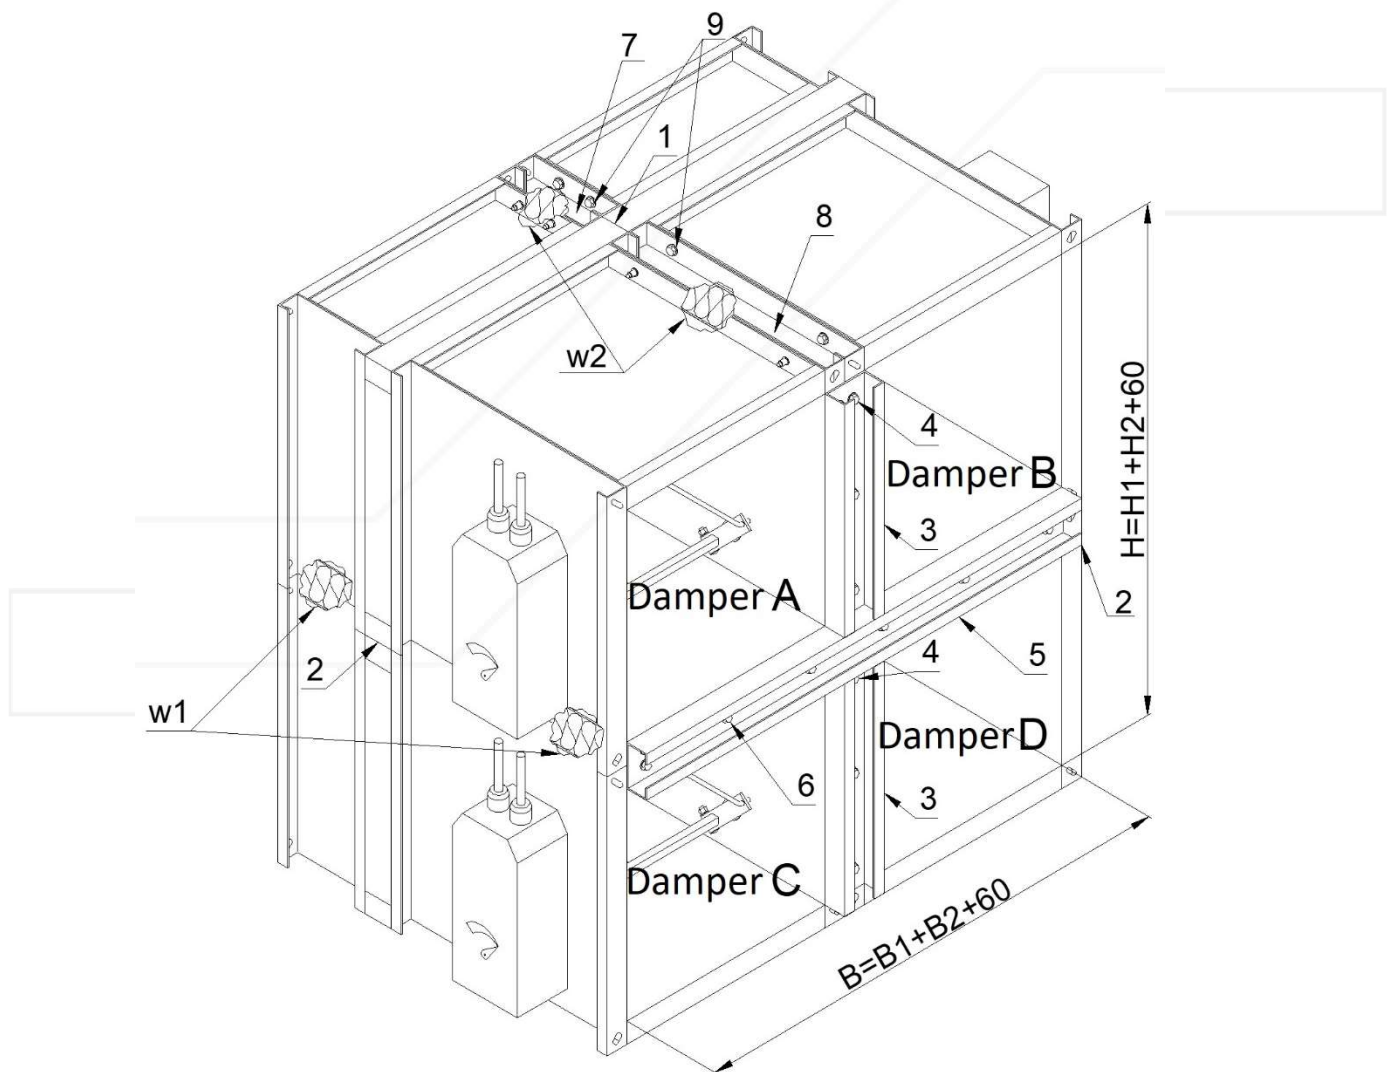

Figure 16. Battery made of four dampers KWP-P
- a. Fix the gasket on insulating spacer of one of adjoining fire dampers (position (1) in the Figure 16).
- b. Set together the sides of fire damper A and the fire damper B (where the gasket was fixed) and assemble them together on the front and back with use of perforated assembly strips (2) and self-tapping screws M6x10 (3), which should be tightened into the openings in fire damper body. In order to carry out the correct assembly, 4 self-tapping screws should be used per each assembly strip with length of 1200 [mm].
- a. Fix the PROMASEAL-PL gasket with a cross-section of 20×1.8 mm on insulating spacer of one of adjoining fire dampers (position (2) in the Figure 16).
- c. Place the set of fire dampers A and B on the set of fire dampers C and D and assemble them together on the front and back with use of perforated assembly strips (5) and self-tapping screws M6x10 (6), which should be tightened into the openings in fire damper body. In order to carry out the correct assembly, 4 self-tapping screws should be used per each assembly strip with length of 1200 [mm].
- e. The place of sealing the top of the battery with mineral wool should be sealed with aluminum tape (7).
- For vertical battery consisting of three KWP fire dampers:  $(B1+120) \times (H1+H2+H3+240)$  (Figure 16),